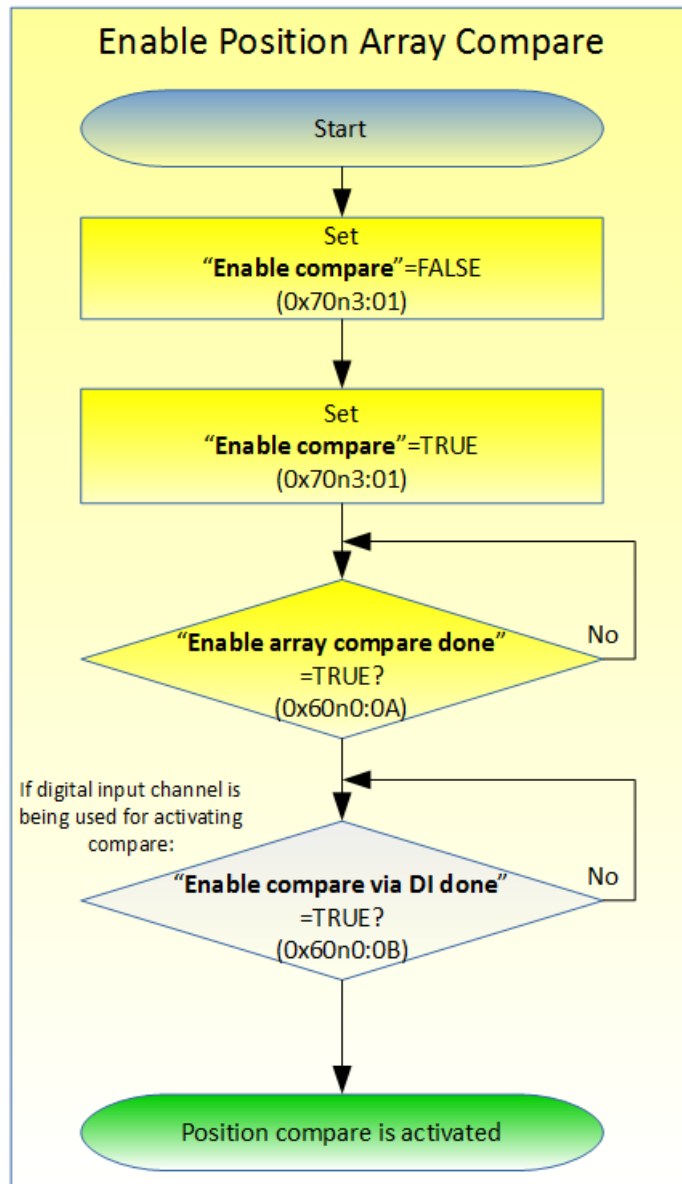

Figure 38: Procedure for activating the array compare function
Step 4: Set the slave in Op mode and enable the compare function by setting the "Enable compare" (0x70n3:01, n=0;1) variable to TRUE (Figure 38).